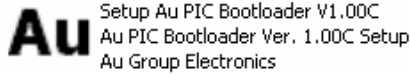

Figure C-1 Setup Au PIC Boot-loader V1.00A icon
1. Double click icon of the “Setup Au PIC Boot-loader V1.00B” to start installing Au PIC Boot-loader (Figure C-1).